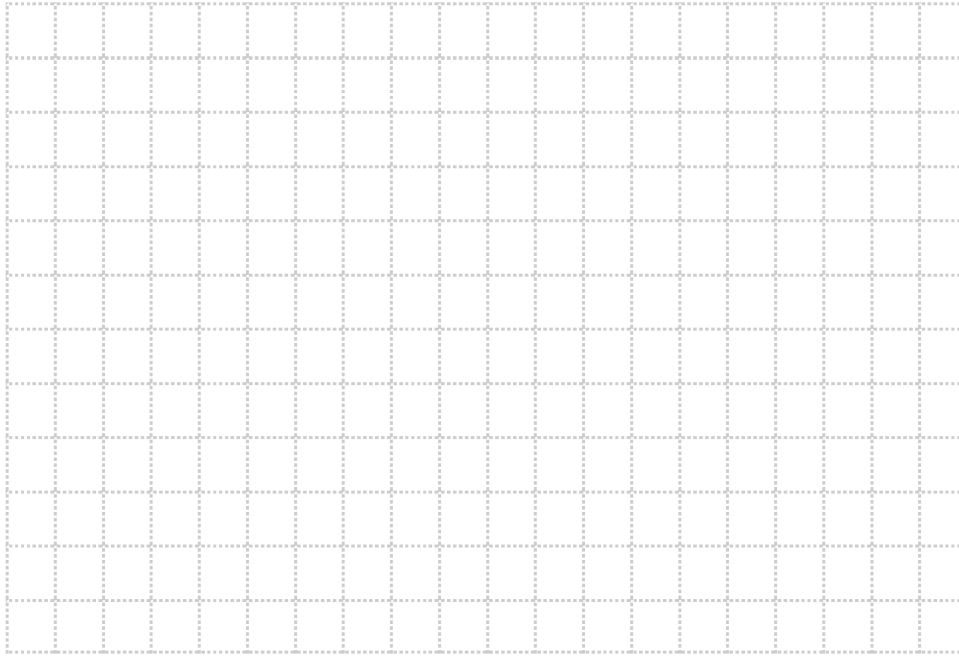

Figure 1-7. Head versus flow rate.
- 18. Plot the head versus flow rate curves in Figure 1-7.